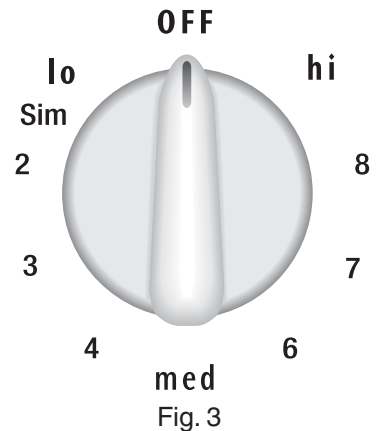

Fig. 3
2. Push in and turn the surface control knob in either direction to the desired setting (Fig. 3). Turn the knob to adjust the setting if desired. Start most cooking operations on a higher setting and then turn to a lower setting to finish cooking. Each surface element provides a constant amount of heat at each setting. A glowing red surface heating area extending beyond the bottom edge of the cookware indicates the cookware is **too small** for the surface heating area.